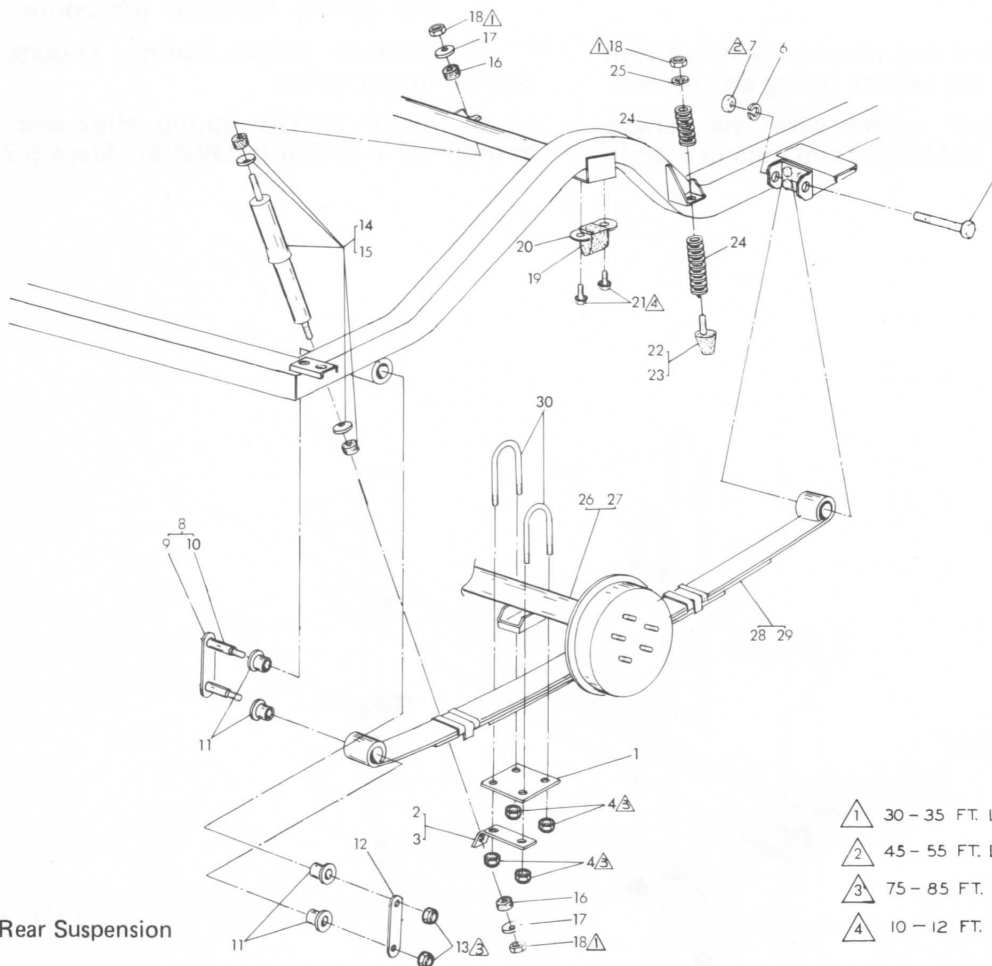

FIGURE 1—Rear Suspension
4. Torque shackle nuts and front mounting bracket bolt to specification. See Figure 1.